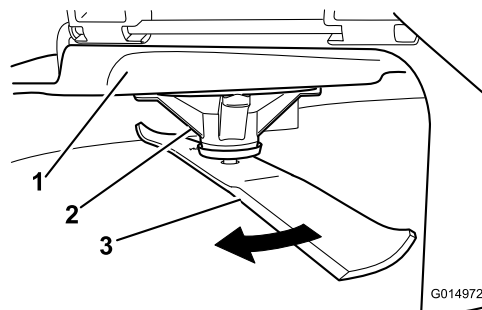

Figure 50
2. While wearing thickly padded gloves, or other adequate hand protection, slowly rotate the blade to be measure into a position that allows effective measurement of the distance between the cutting edge and the level surface the machine is on (Figure 50).